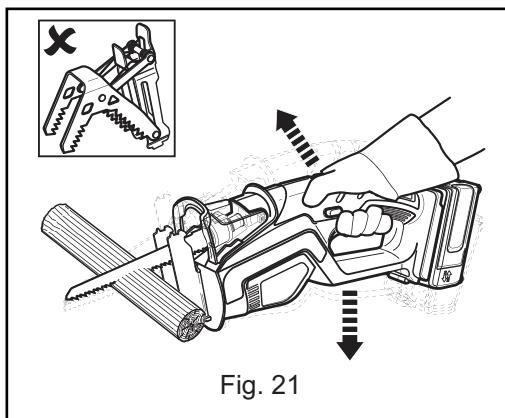

Fig. 21
- Move the product in a swinging motion so the saw blade cuts through the workpiece with an even feed (Fig. 21).